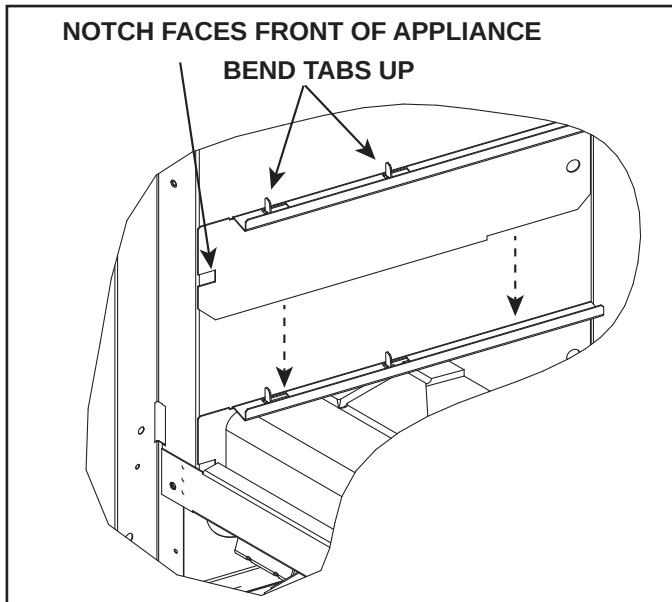
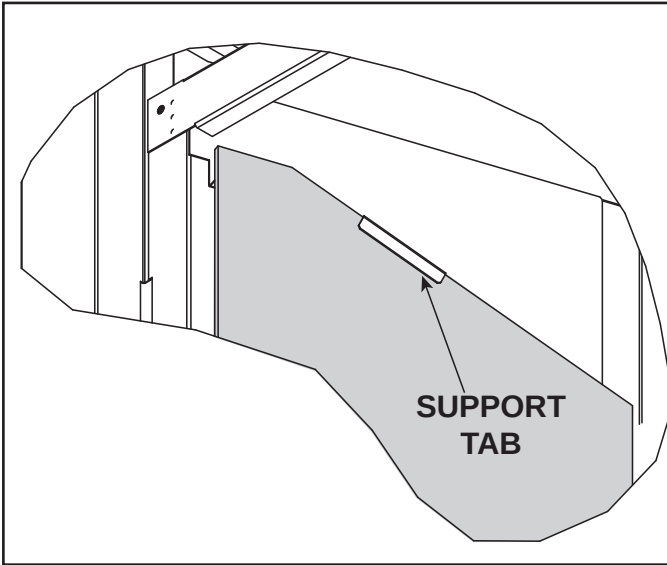

Figure 11.7 Install Lower Glass Bracket (Left Side Shown)
Figure 11.15 Install Left Glass Panel
1. Remove lower glass brackets from the top refractory packaging. Break brackets apart and bend “up” hand bend features. See Figure 11.7.
Install left and right lower glass brackets by installing them between the outer edges of the left and right hearth pieces with the notch facing the front of the appliance. These pieces will fit tightly between the hearth sides and the firebox. See Figure 11.7.
7. Install left glass panel by inserting the glass panel from the front. Slide panel into the bottom glass bracket between the bent up tab and return bend as shown in Figure 11.7. This will create a gap between the glass and the firebox. Slide the panel back until it contacts the rear glass panel. Ensure that the support tab shown in Figure 11.15 is bent “down” on each upper glass bracket to secure left/right glass panels. Repeat Step 7 for right glass panel installation.